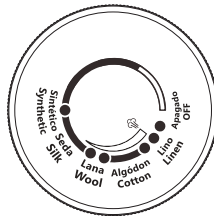

Figure 4
3. Set the Temperature Control Dial (Figure 4) to the correct ironing temperature as indicated on the label or the temperature settings table.